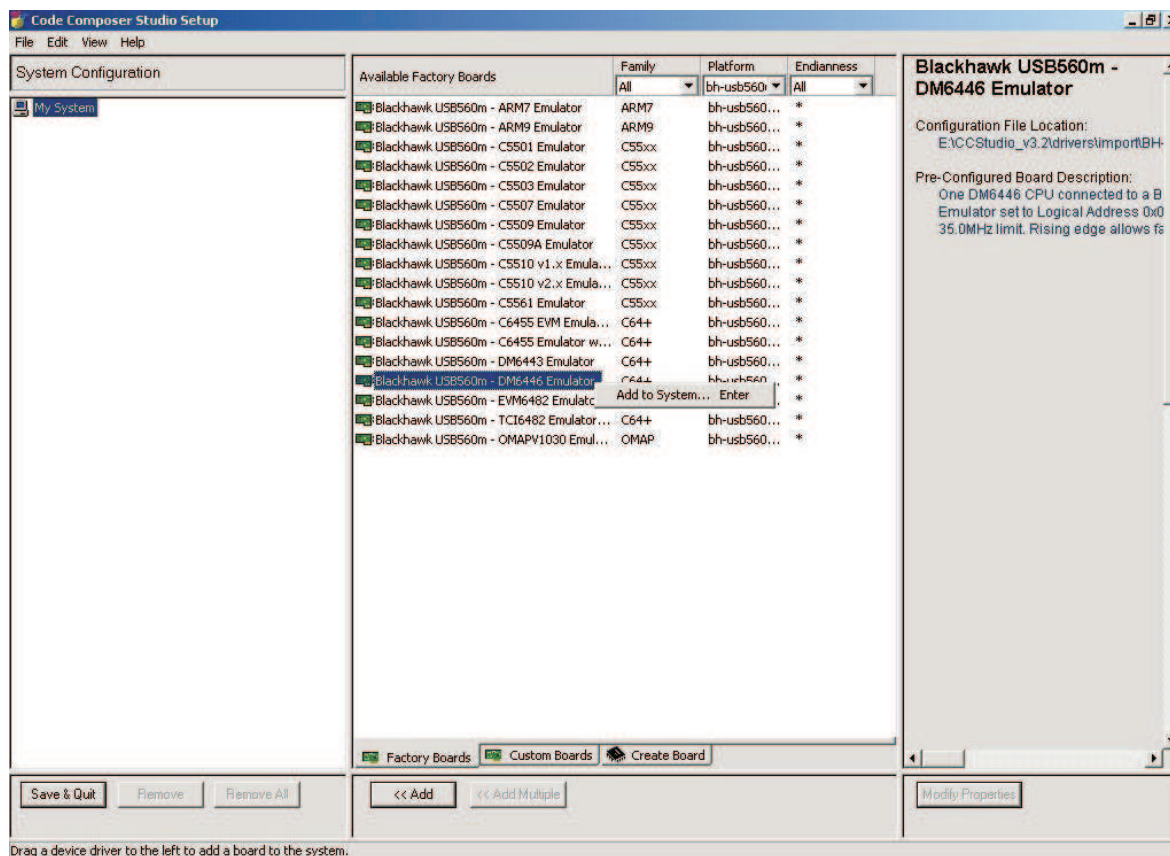

Figure 1. Code Composer Studio Setup Configuration Selection
- Step 4. In the middle tab, locate the configuration corresponding to the BlackHawk USB560M for DM6446 Emulator as in Figure 1.
Step 5. Right-click on this configuration and select *Add to system* as shown in the Figure 1.